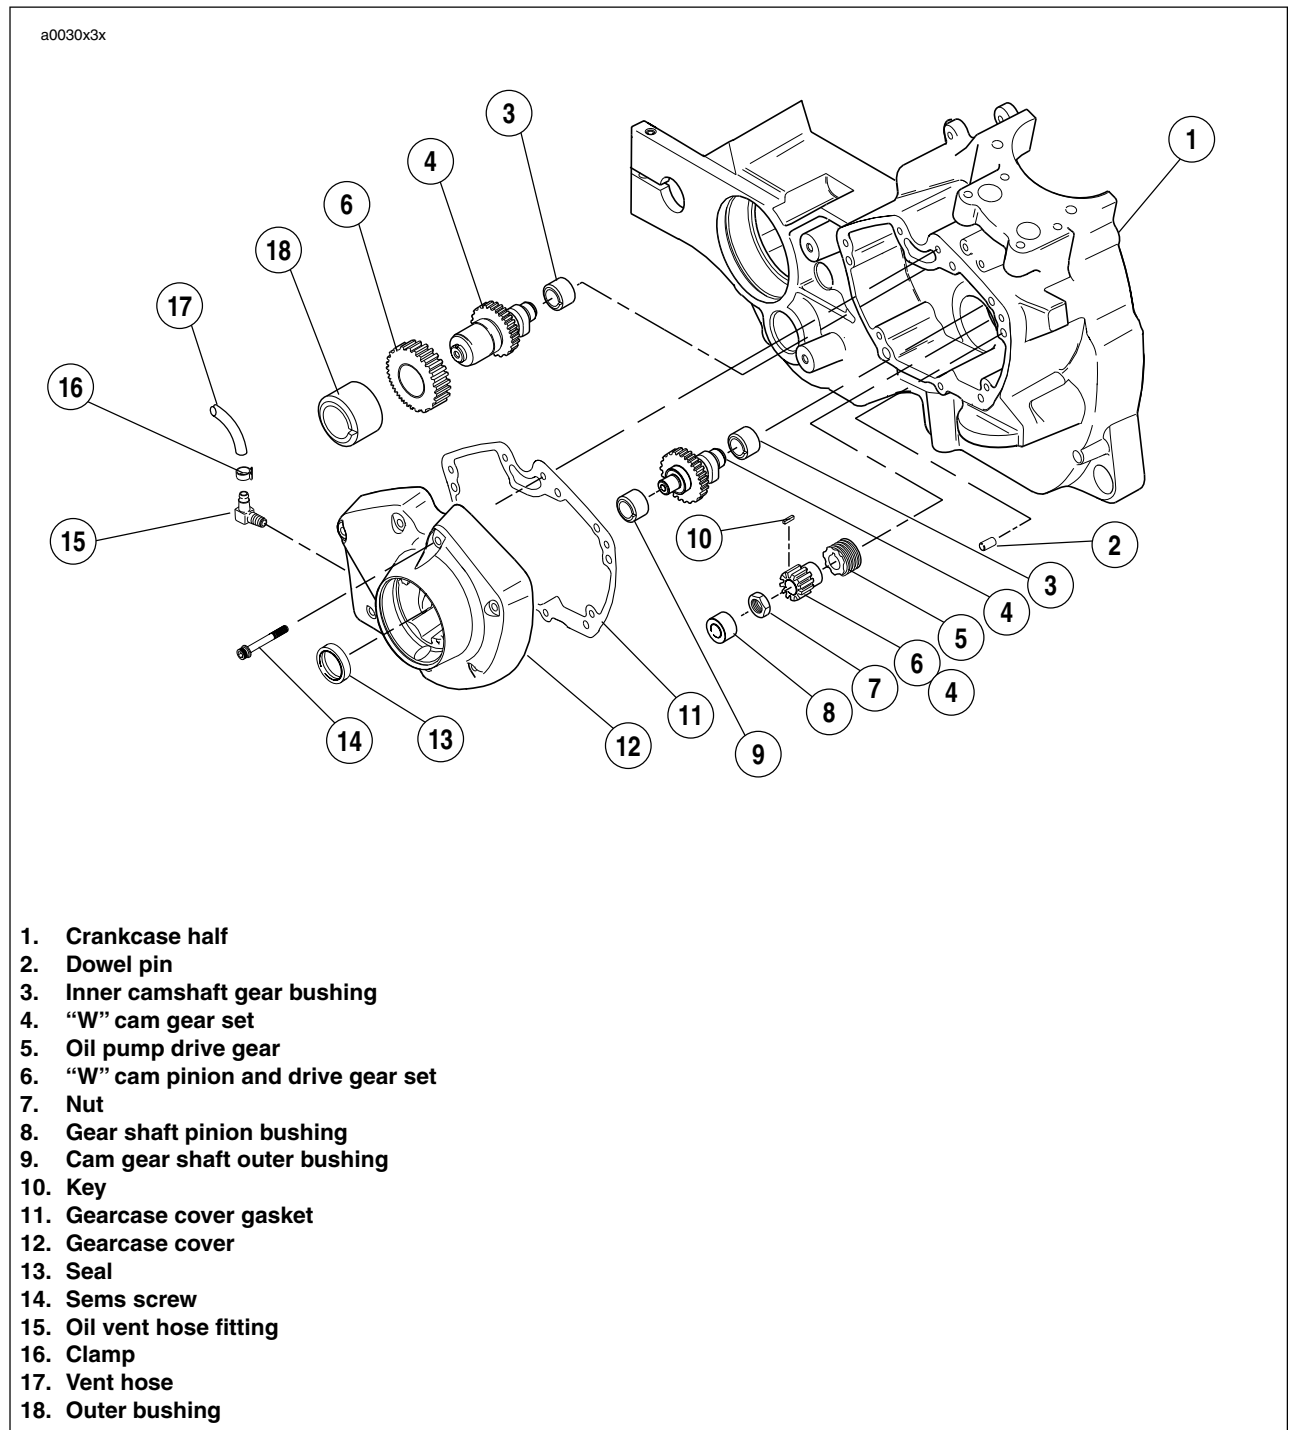

Figure 3-103. Gearcase Cover & Cam Assembly
1. See Figure 3-103. Thoroughly clean area around gearcase cover and tappets. Blow loose dirt from crankcase with compressed air.
1. See Figure 3-103. Bushings are press fit in crankcase and gearcase cover. Inspect each bushing against its corresponding cam gear shaft or pinion gear shaft. See Table 3-29.
3. See Figure 3-103. Liberally apply engine oil to bushings, shafts, and gears. Install all cam gears into bushings of right crankcase half, properly aligning timing marks of cam gears and pinion gear.
4. See Figure 3-103. Install a **new** seal and **new** dry gear cover gasket on crankcase.